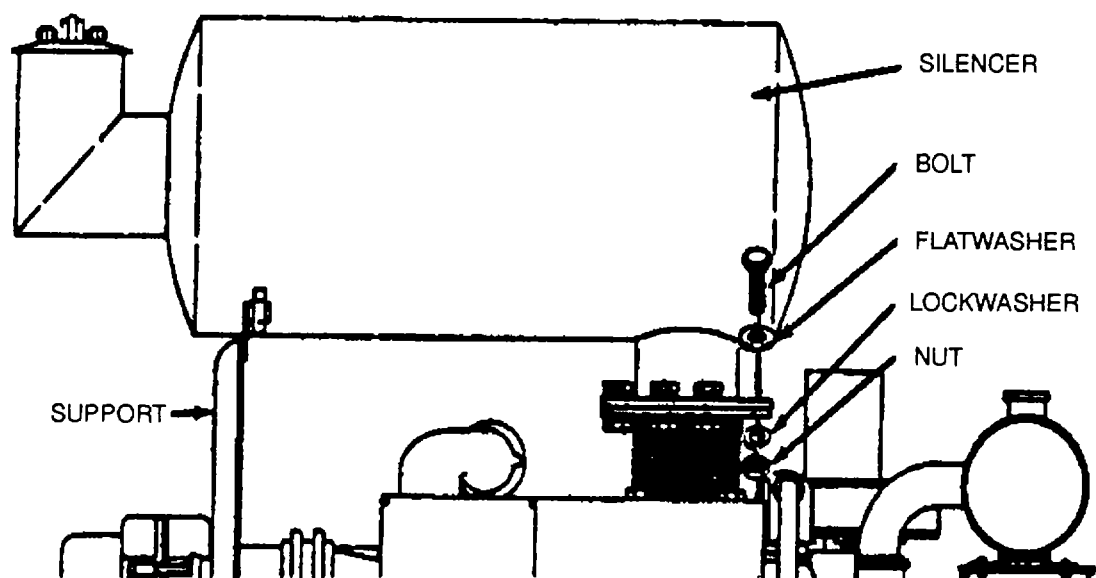

Figure 4-15. HP Pump Diesel Engine Fuel System Bleeding
- (1) Gain access to cage surrounding mufflers.
- (2) Remove eight nuts, lockwashers, flatwashers, and mounting bolts securing muffler (Figure 4-15).
- (3) Remove muffler from support.
- (4) Remove and discard gasket.